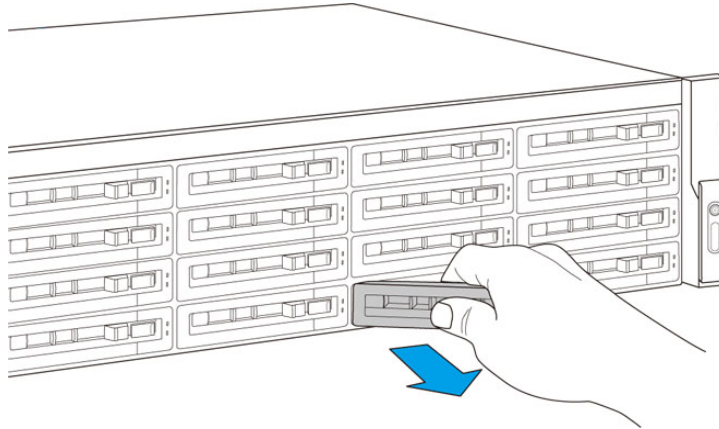

Figure 3-3: HDD Tray Removal (Front Panel)
Step 2: Remove the hard drive tray (**Figure 3-3**).